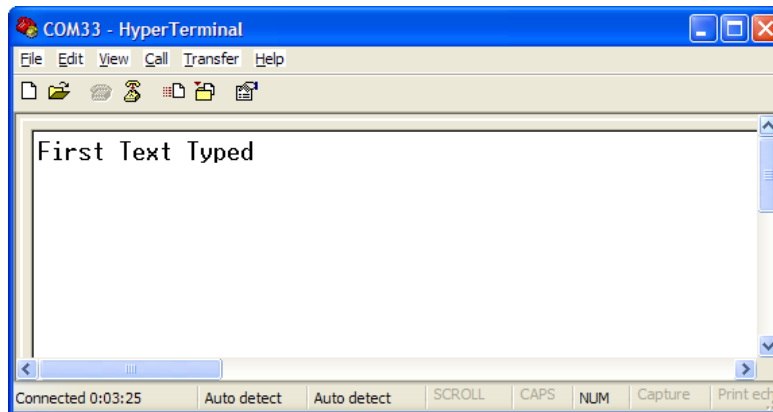

Figure 5-27. Text Typed in First Hyperterminal Window
1. Type some text in one of the Hyperterminal windows as shown in Figure 5-27.